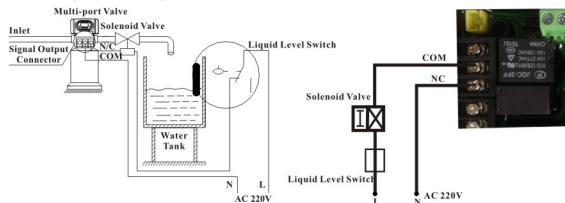

Figure 3-1 Wiring of Solenoid Valve on Outlet
① Solenoid valve on outlet controls water level in brine tank.
**Instruction:** If system strictly require no hard water flow from outlet in regeneration cycle( Mainly for no hard water flowing out when valve is switching or valve in backwash or brine drawing position), a solenoid valve could be installed on outlet, the wiring refers to Figure 3-1.